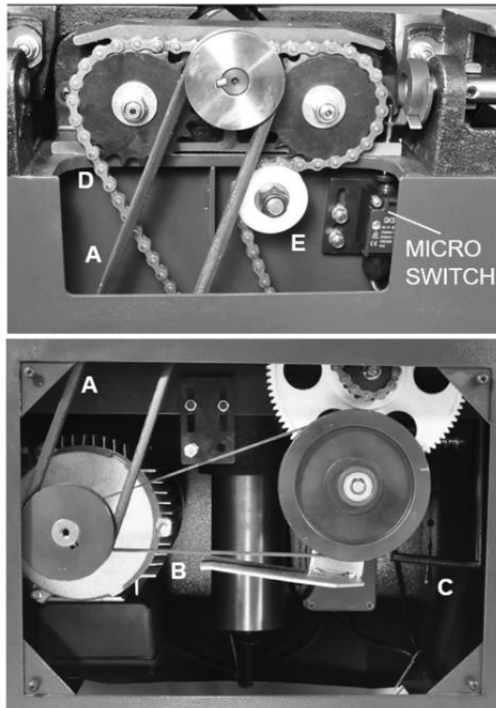

Figure 23.
- **Wood Selection:** **Only cut natural wood with the machine**, avoiding materials such as MDF, particle board, plywood, laminates, metals, glass, stone, tile, products with lead-based paint, or those containing asbestos, as using the machine on these materials may lead to injury or machine damage. See figures 23, 25